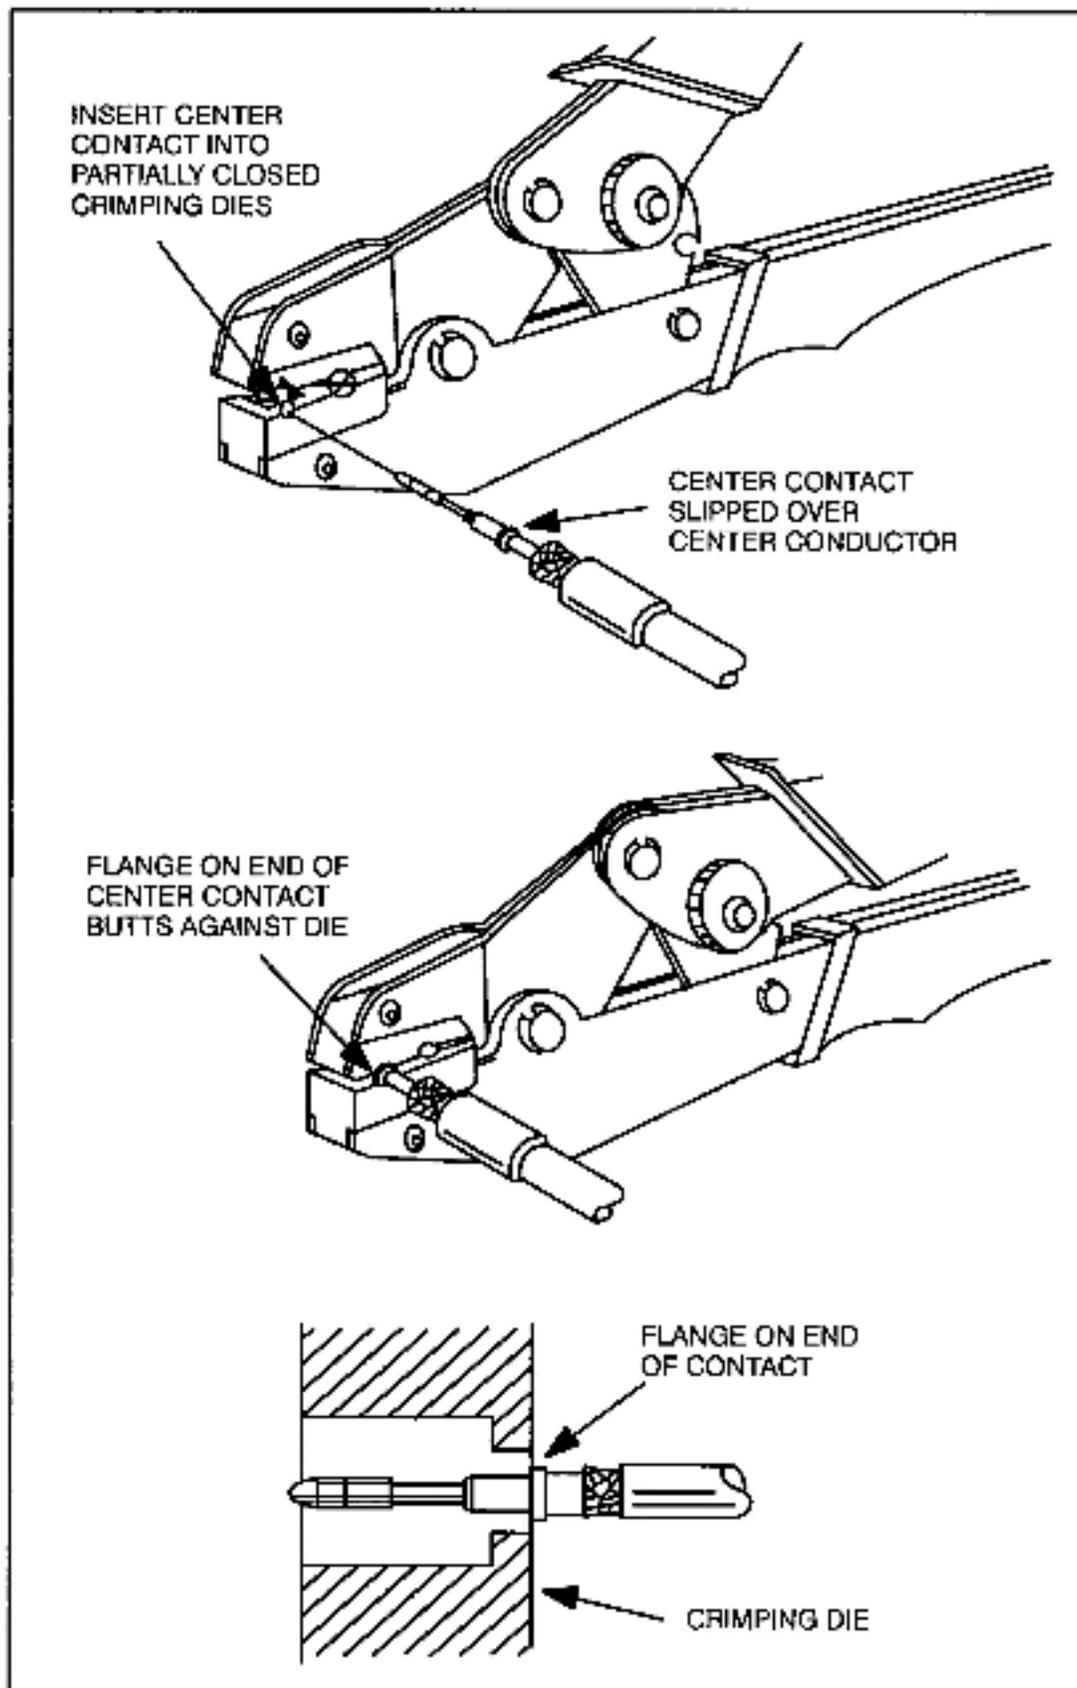

Figure 3.10 - Connector Installation Step 3 for RG-59/U Cable
- Step 3. Place the center contact, assembled on the stripped conductor, in the partially closed crimping dies as shown in figure 3.10. Be sure the flange on the end of the center contact butts against the crimping die.